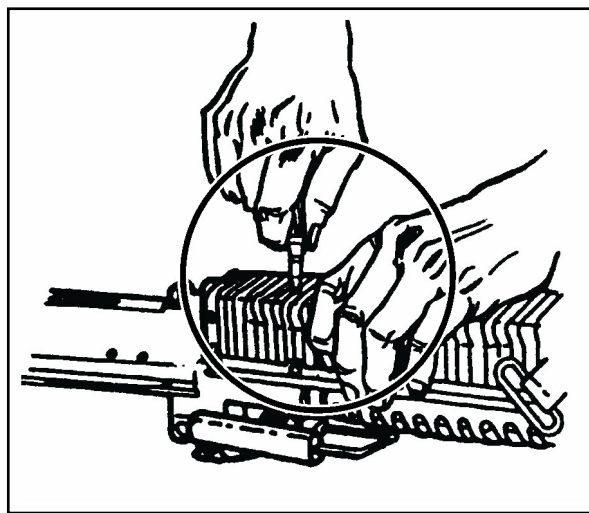

Figure 071-312-3025-12. Forearm latch
- b. Insert a pointed object into the latch hole at the bottom rear of the forearm assembly (figure 071-312-3025-12).